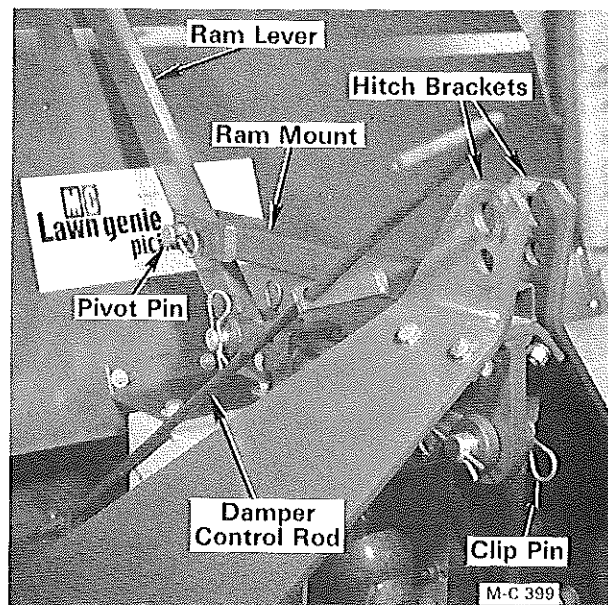

Figure 2
1. Put the damper rod through the damper rod bracket on the ram mount. Bolt the ram mount to the hitch brackets with four ½-13 x 1½" capscrews, lockwashers and hex nuts, see Figure 2 and 3.
2. Install the hydraulic cylinder to the ram mount with a pivot pin and two clip pins as shown in Figure 2 and 3.
3. Attach the ram lever to the hydraulic cylinder and the ram mount with two pivot pins and four clip pins, see Figure 2 and 3.